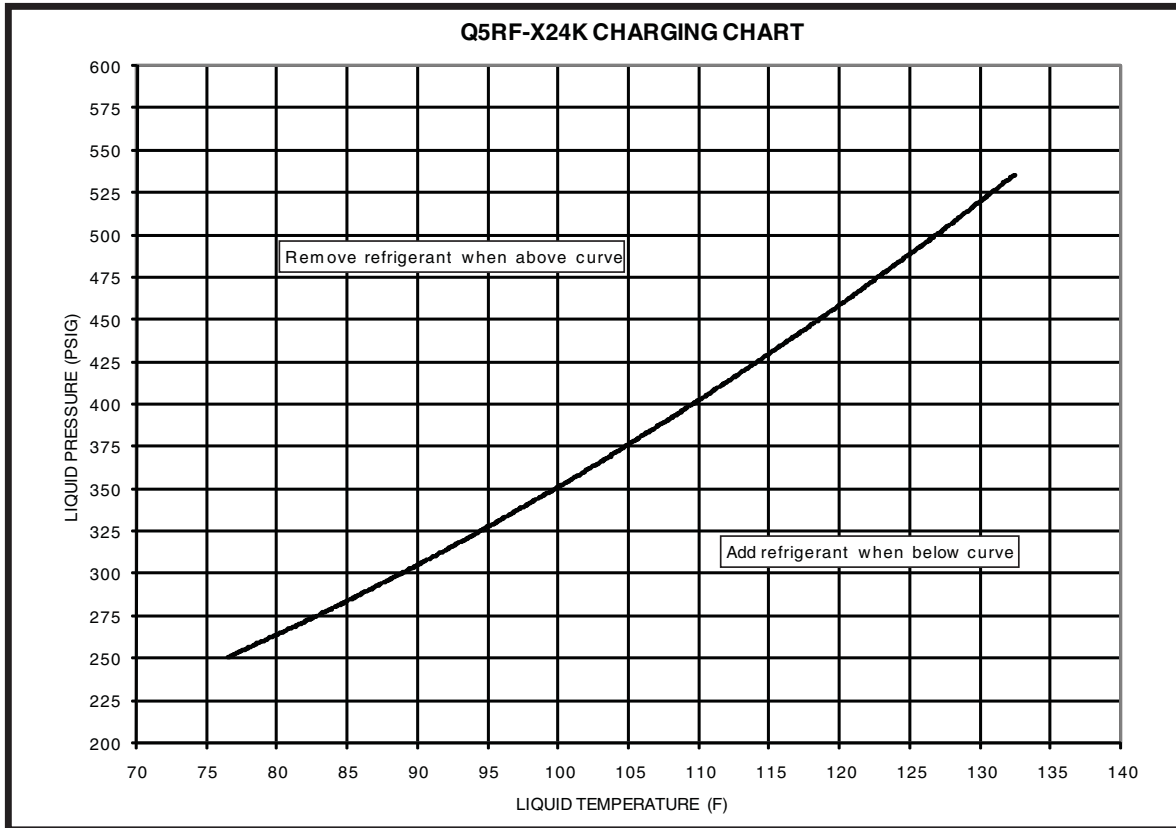

Figure 11. Charging Chart for 2 ton Units
- To achieve rated capacity and efficiency the compressor must be exposed to refrigerant for at least 24 hours prior to running and then must be run for a minimum of 12 hours. See Refrigerant Charging Charts (Figures 11 - 14, pages 14 & 15) for Charging in Cooling Mode.